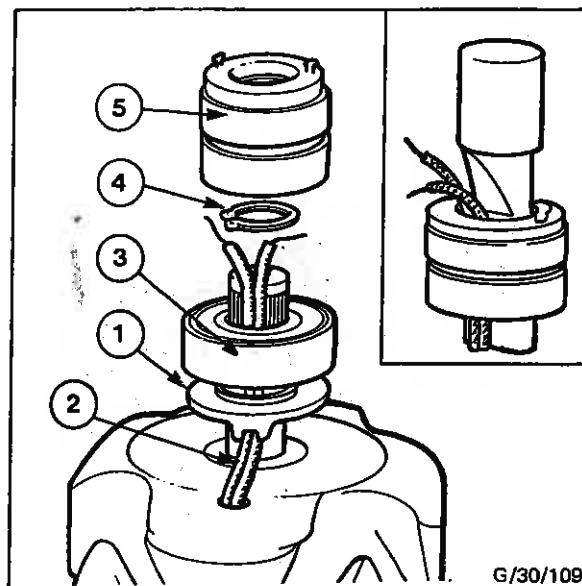
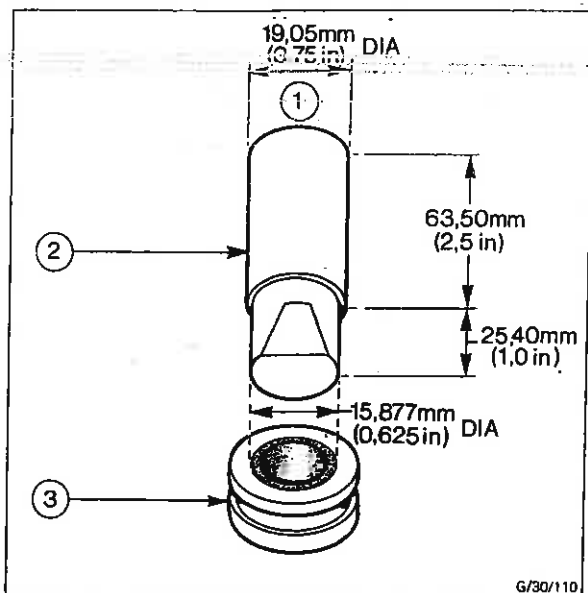

Fig. 70 - Fitting Bearing and Slip Rings
Fig. 71 - Slip Ring Press Tool
6. Place the rotor (drive end downwards) in a suitable fixture of a bench press so that the weight is supported on the rotor claws. Refit the bearing spacer (1) over the rotor shaft so that the moulded groove is in the correct position to contain the field leads (2) from the rotor. Press into position - see Fig. 70.
7. Press new bearing (3) onto the rotor shaft and fit a new circlip (4), ensuring it is fully seated and a tight fit in its groove.
8. Pass the two field leads through the bore of a new slip-ring assembly (5) and locate the slip ring on the shaft with the terminal posts positioned at 90° relative to the shaft lead slot as shown.
9. Place press tool (see Fig. 71) so that the spigot registers in the slip ring-bore with the cut-away portion in line with the field leads as shown in the insert of Fig. 70. Gently press the slip-ring down until the press tool spigot abutts the rotor shaft. Feed the field coil leads past the cut-away portion of the press tool as they appear.